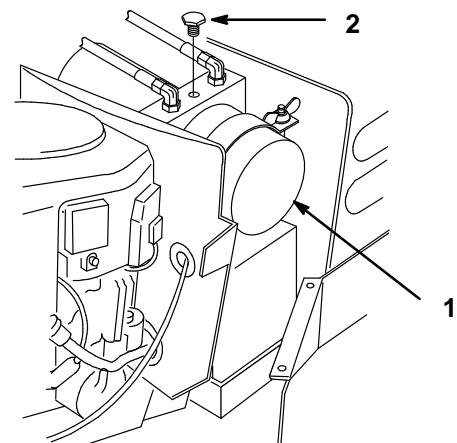

Figure 30
4. Remove the plug on top of the power lift pump (Fig. 30). Fluid should be level with the bottom of the hole.